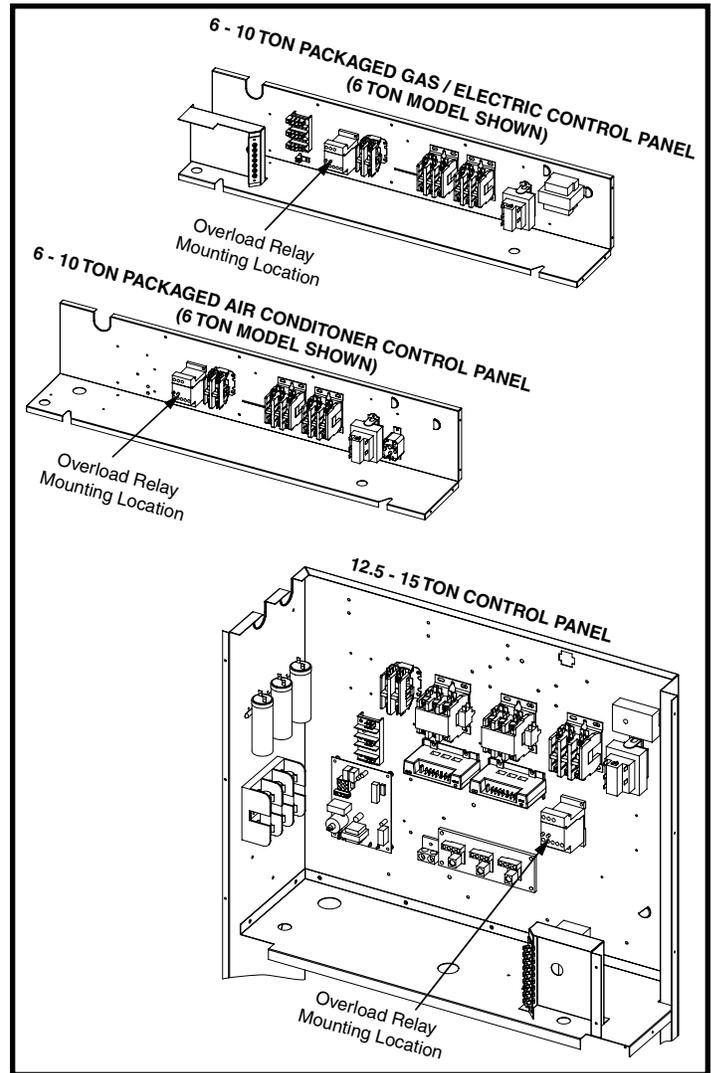

Figure 1. Overload Relay Mounting Locations
5. Remove the factory motor & lead assembly from the motor mounting plate and install the HSDK motor & lead assembly in the unit. See Figure 1 (page 5) for overload relay mounting locations.